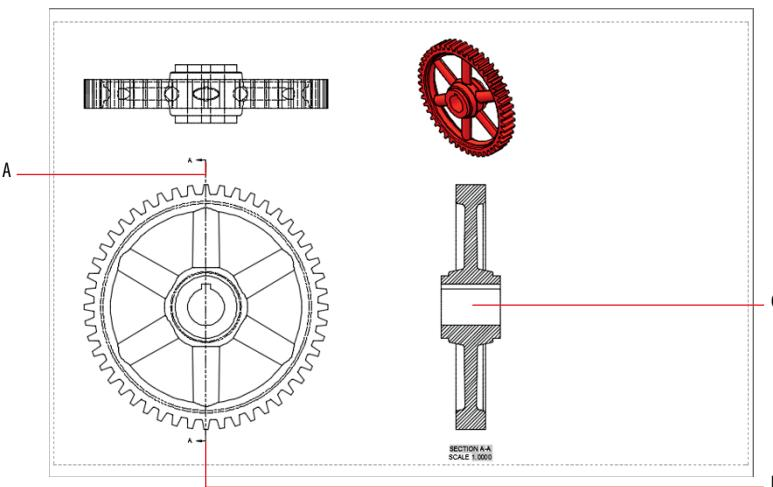

FIGURE 18.24 Creating a section of the base view
10. Toggle on Ortho in the status bar. Click points A and B shown in Figure 18.24 to draw a section cut line, and press Enter. Click point C to locate the section view, and press Enter to end the **VIEWSSECTION** command.